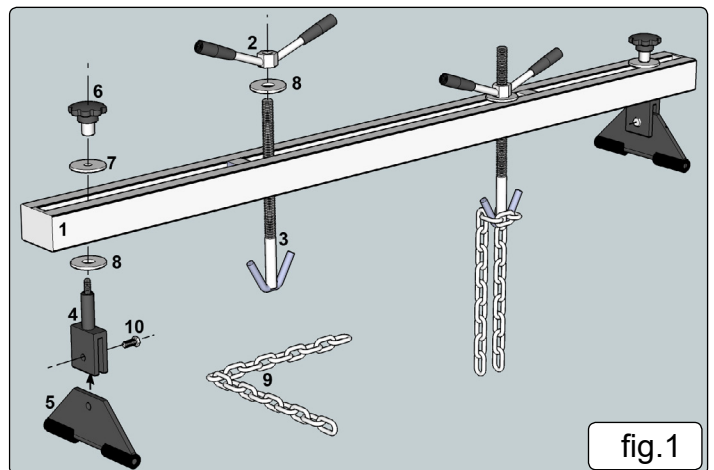

fig.1
4.1. Refer to fig.1.
Note: Numbers in brackets refer to item numbers shown in fig.1
- 5.2. Place a large washer (8) over the upstanding rod on the standing block (4) and insert the rod through the slot in the main support guide from underneath. Place a large washer (7) over the thread on top of the rod and secure the assembly to the main support guide by screwing on a grip knob (6) as shown in fig.1. Assemble the other foot/standing block and fix the assembly to the other end of the main guide beam in the same way.